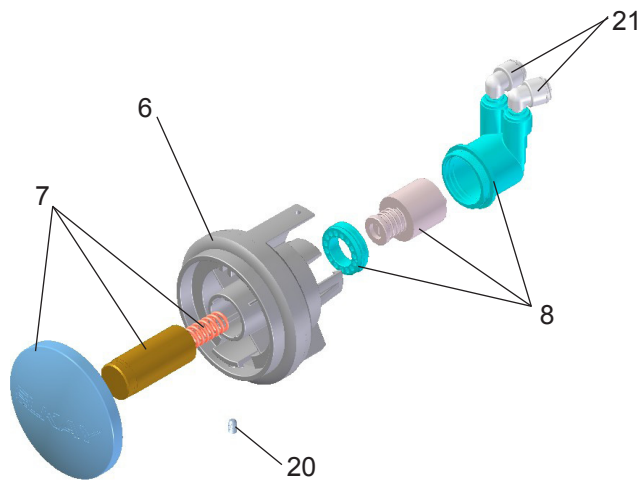

Figure 9 - Push Button Assembly
14. **Check** stream height from bubbler. Stream height is factory set at 35 PSI. If supply pressure varies greatly from this, remove push button (Item 7 - Figure 9) and adjust the screw on the regulator (Item 8 - Figure 9). To remove push button, remove setscrew from bottom of sleeve (Item 6). Insert a small punch in screw hole and push up while grasping the push button and pull forward removing the push button. Clockwise adjustment will raise stream height and counterclockwise movement will lower stream height. For best adjustment stream should hit basin approximately 6-1/2" from the bubbler. Reassemble the push button by pushing in on button until the push button catches in the sleeve. Reinstall the setscrew (Item 24) in the sleeve (Item 6).